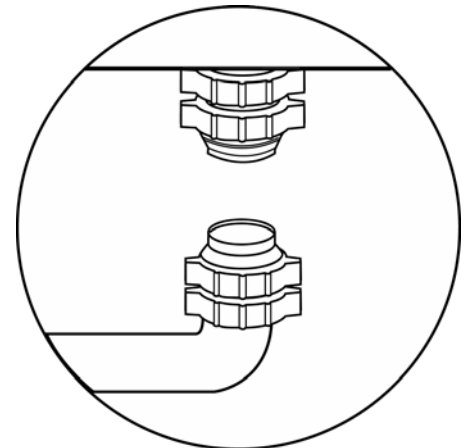

Figure 6.2
3. Cut out 1 1/2" section from drain tailpiece using hack-saw (Figure 6.2)
5. Place Slip Joint Wing Nut and Beveled Washer over both ends of cut pipe, with beveled side of washer towards cut pipe (Figure 6.2).